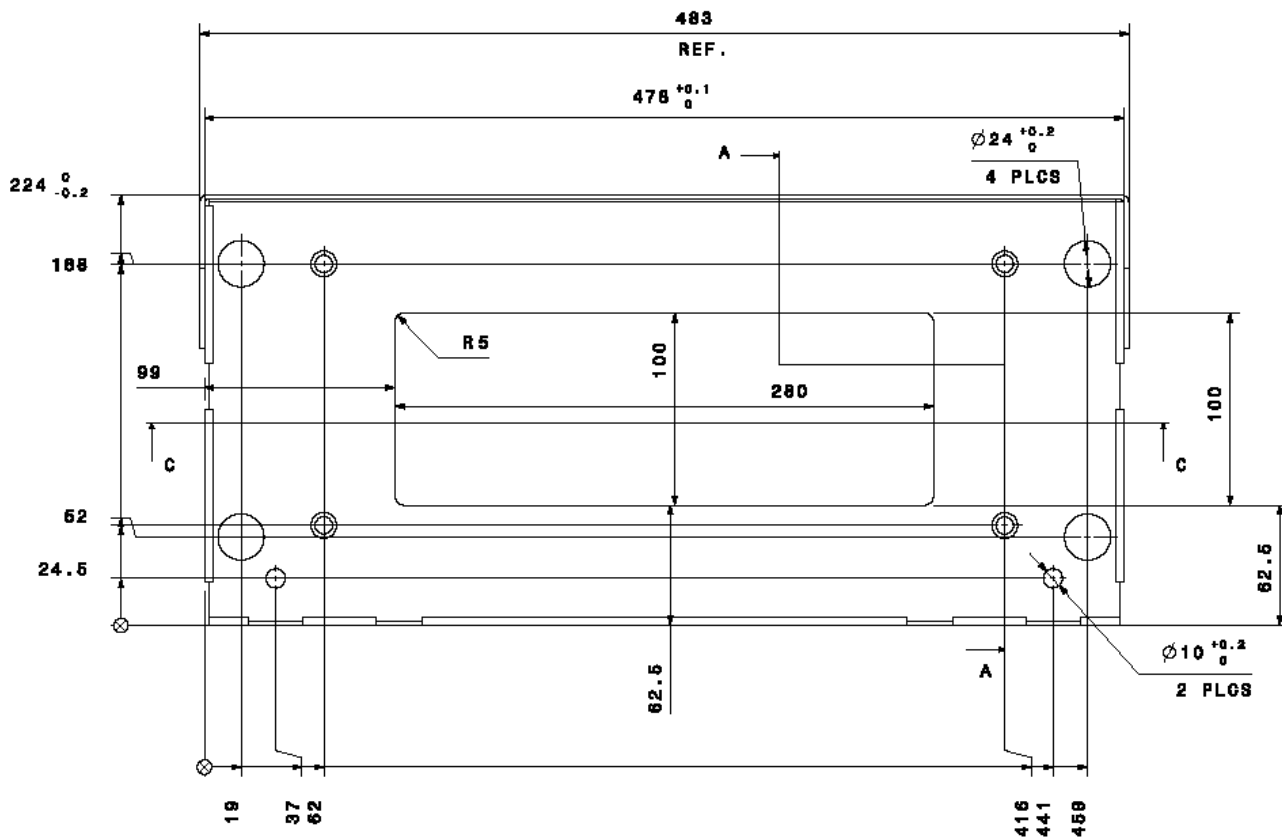

Figure 2-25. Mounting Tray Installation
(See Figure 2-25)
- b. Attach the mounting tray to the metal plate using four bolts, spring washers and flat washers (see Figure 2-25).